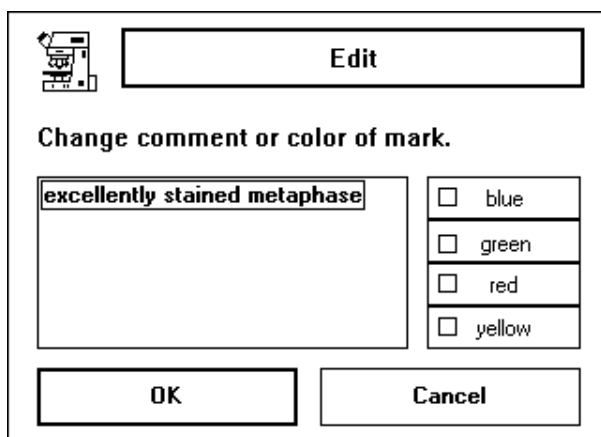

Fig. 73 Editing of markings
- It is possible to modify the comments or the color of stored markings by selecting the marking via **Find** and opening the following dialog box via **Edit** (Fig. 73).